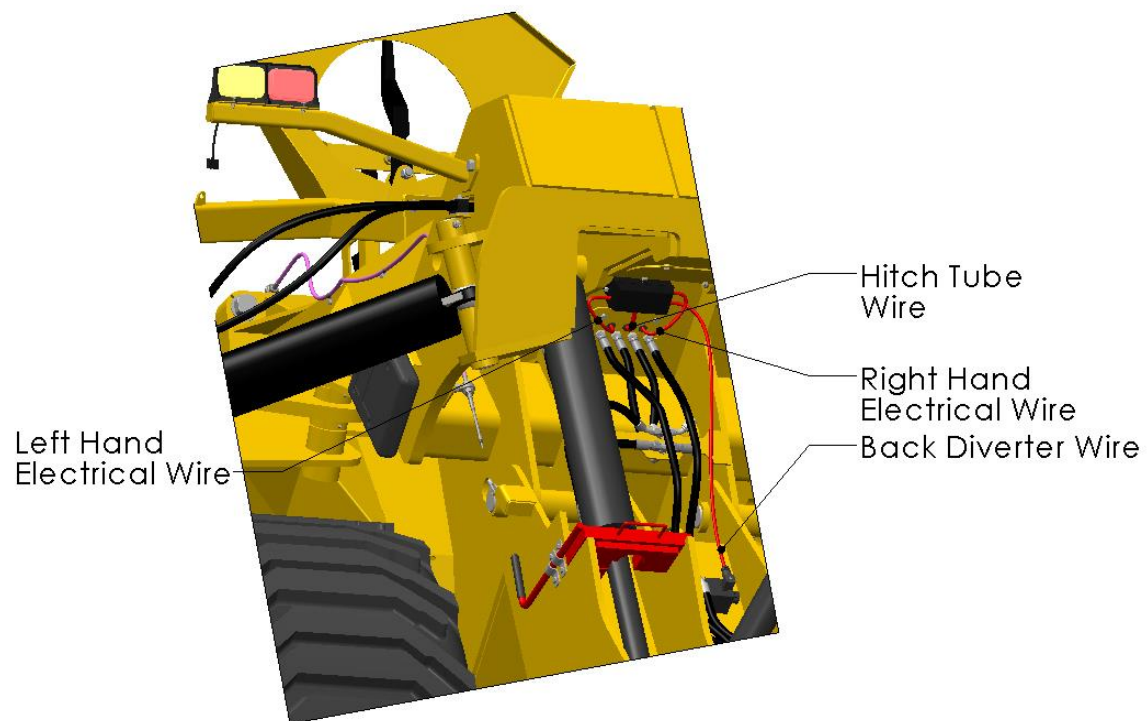

Figure 5 - Back electrical routing
- b) Connect the 7-pin round trailer plug following figure 5.
- d) Connect main harness (28699) to wishbone harness (28652) as shown in figure 5
- f) Connect main harness (28699) to wishbone harness (28652) as shown in figure 5